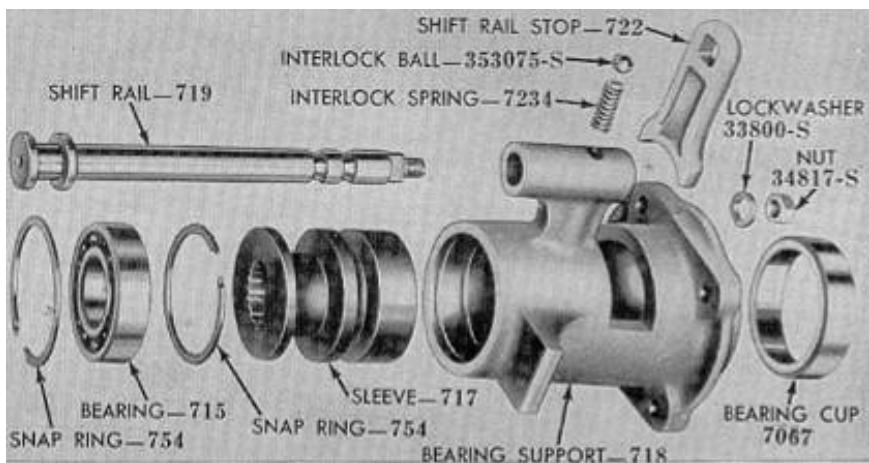

Fig. F075 - Power take-off shifter assembly which is mounted on rear wall of transmission housing. Models 2N-8N-9N. Refer also to Fig. F057.
The front end of the power take-off shaft is supported in a ball bearing (715-Fig. F075) mounted in support (718) located on the rear wall of the transmission housing. Rear end of shaft is supported in a similar type bearing mounted in a retainer on the rear face of the center housing. And adapter is available to increase shaft size to 1-3/8 inch to permit use of ASAE standard implement drive coupling. The PTO shaft revolves at 545 rpm when the crankshaft is revolving at 1500 rpm.
96. To remove the shifter and shaft front bearing unit from the tractor, detach the center housing from the rear of the transmission housing as outlined in paragraph 70A or remove the hydraulic lift cover assembly from the center housing. Remove the cap screws retaining the unit to the rear wall of the transmission housing Fig. F056. Procedure for overhaul is self-evident after examining the unit or the components as shown in Fig. F075.